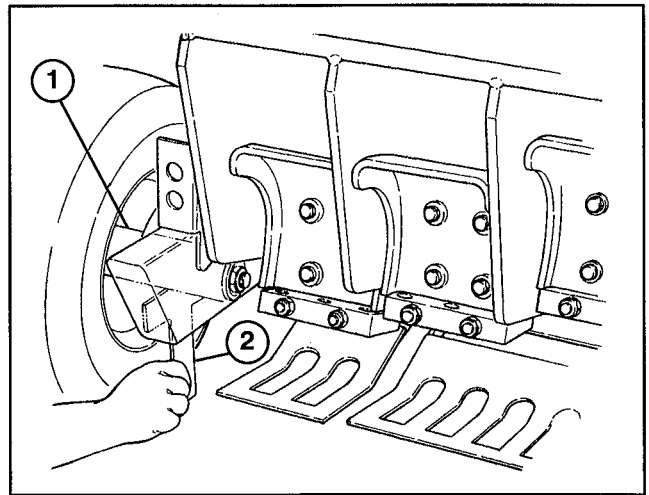

Figure 21
5. Repeat procedure using long end of height gauge on each rear wheel spindle (Fig. 21).